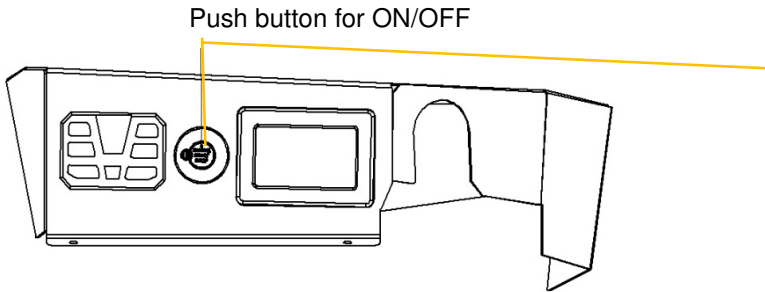

Fig. Y1
11. Mower blade removal (refer from Fig. Y1 to Z)
12. Mower blade installation (refer Fig. Y1 to Z)
See Fig. Y1 & Y2 for instructions to turn off the power and to disconnect the battery BEFORE attempting to jack or service mower.